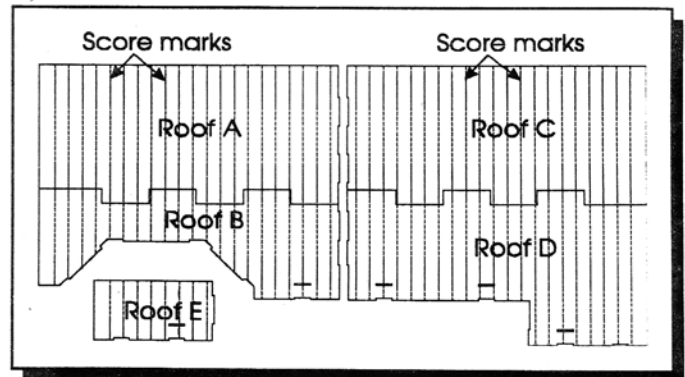

Figure 23
2. Interlock and glue Roof A to B and C to D. Place a heavy object on the junctions until dry. See Figure 23.
3. Using a straight edge and a pencil, draw light pencil lines across roof assemblies using the score marks forming parallel lines with the bottom edge. These are the shake lines. See Figure 23.